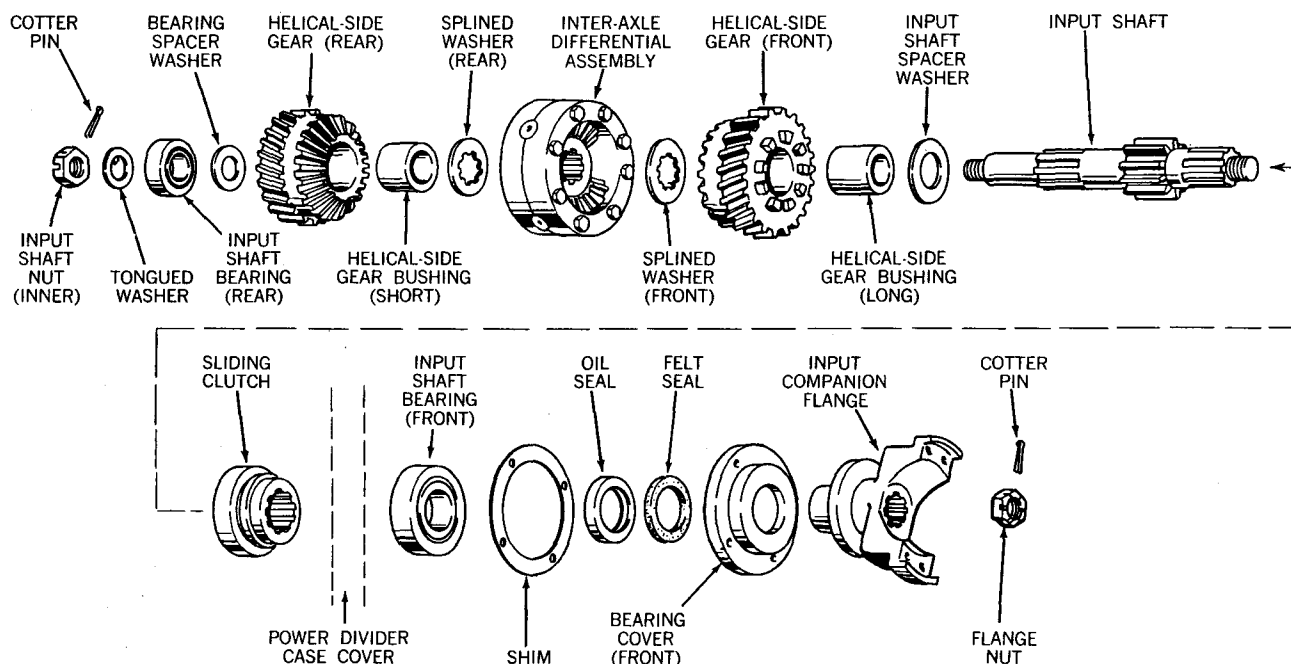

Fig. 150. Exploded View of Input Shaft
7. Install felt seal and oil seal in input shaft front bearing cover. Refer to figure 150 for identification of input shaft parts.